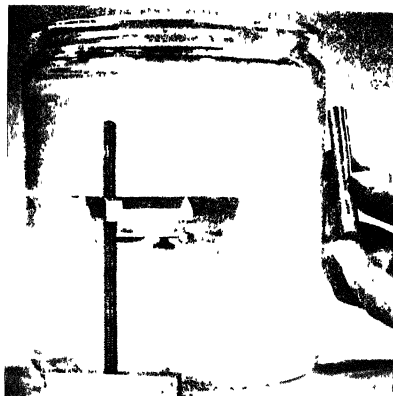

Figure 10-22 —Making the balance test.
11. Set the point of your sighting rod at the same height as the compass card, and spin the float with a magnet. See figure 10-22. As the card spins, compare its level with the sighting rod. If the float is balanced, the card will stay level while it is spinning. If the float is out of balance, it will wobble as it turns.